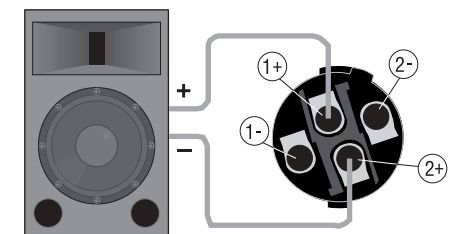

Figure 2.12 Alternate Bridge-Mono Wiring: Loudspeaker Wired to Amplifier's Top Speakon Connector
- 2) Wire the speaker only to the top Speakon connector as shown in Table 3 and Figure 2.12.